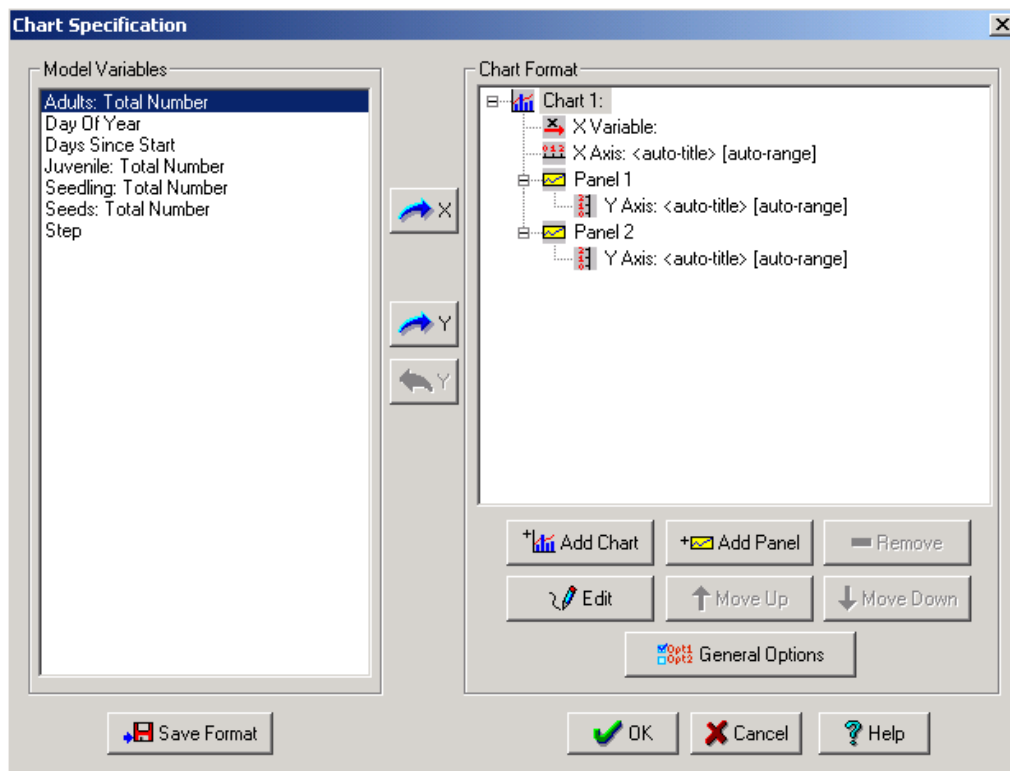

Figure 1.21 Chart Specification Panel
1. With the Run window active, select the Chart button  to open the '**Chart Specification**' window (Figure 1.21)